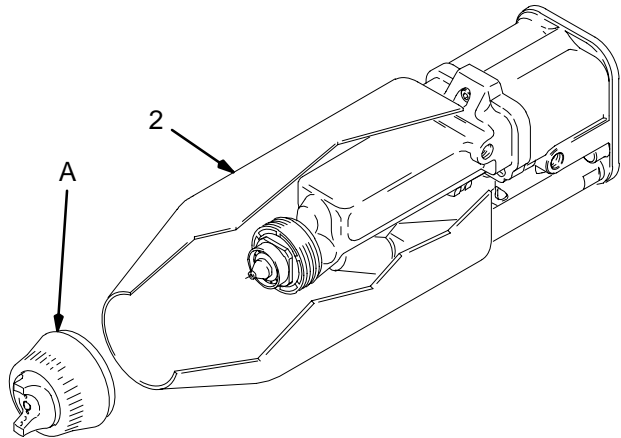

Fig. 35
2. Remove the air cap assembly (A) and the shroud (2). See Fig. 35.